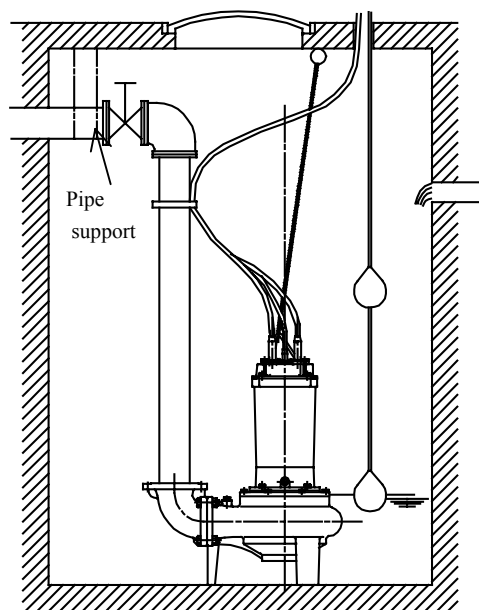

Fig.2
- 4) If there is a flow of liquid inside the tank, support the piping to prevent abnormal vibration. (See Fig.2)